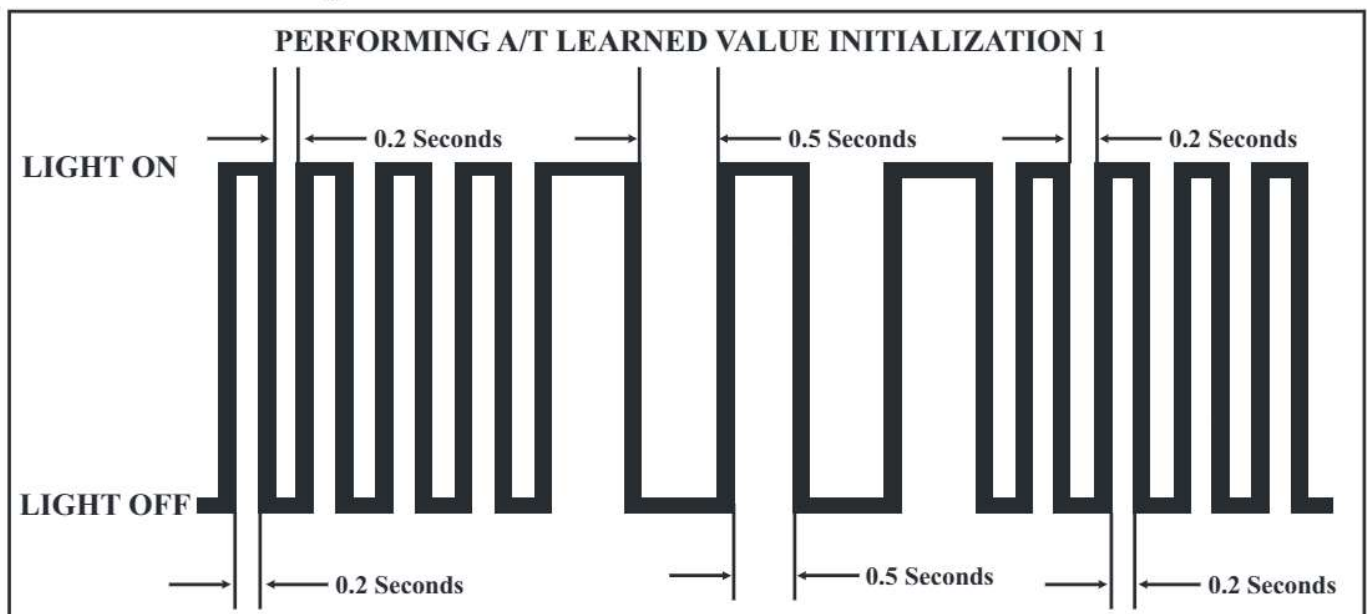

Figure 88
- 5 - Check to see that the A/T oil temperature warning lamp flash changes from 0.5 to 0.2 seconds intervals as seen in Figure 88.